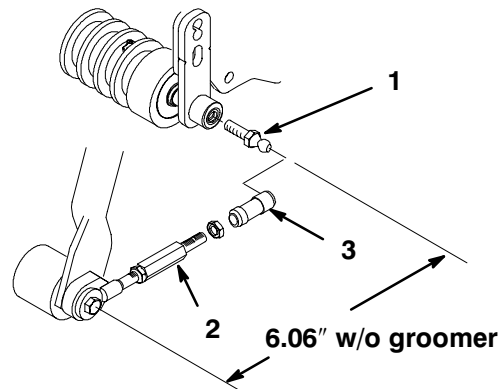

Figure 12
4. Thread a ball stud into each end of the cutting unit front roller (Fig. 12).
6. Slide the sleeve back on each ball joint receiver and hook onto the cutting unit ball studs (Fig. 12).
Note: The pull link assemblies are preset at the factory. If they ever need to be disassembled, reassemble them to the dimensions shown in Figure 12.